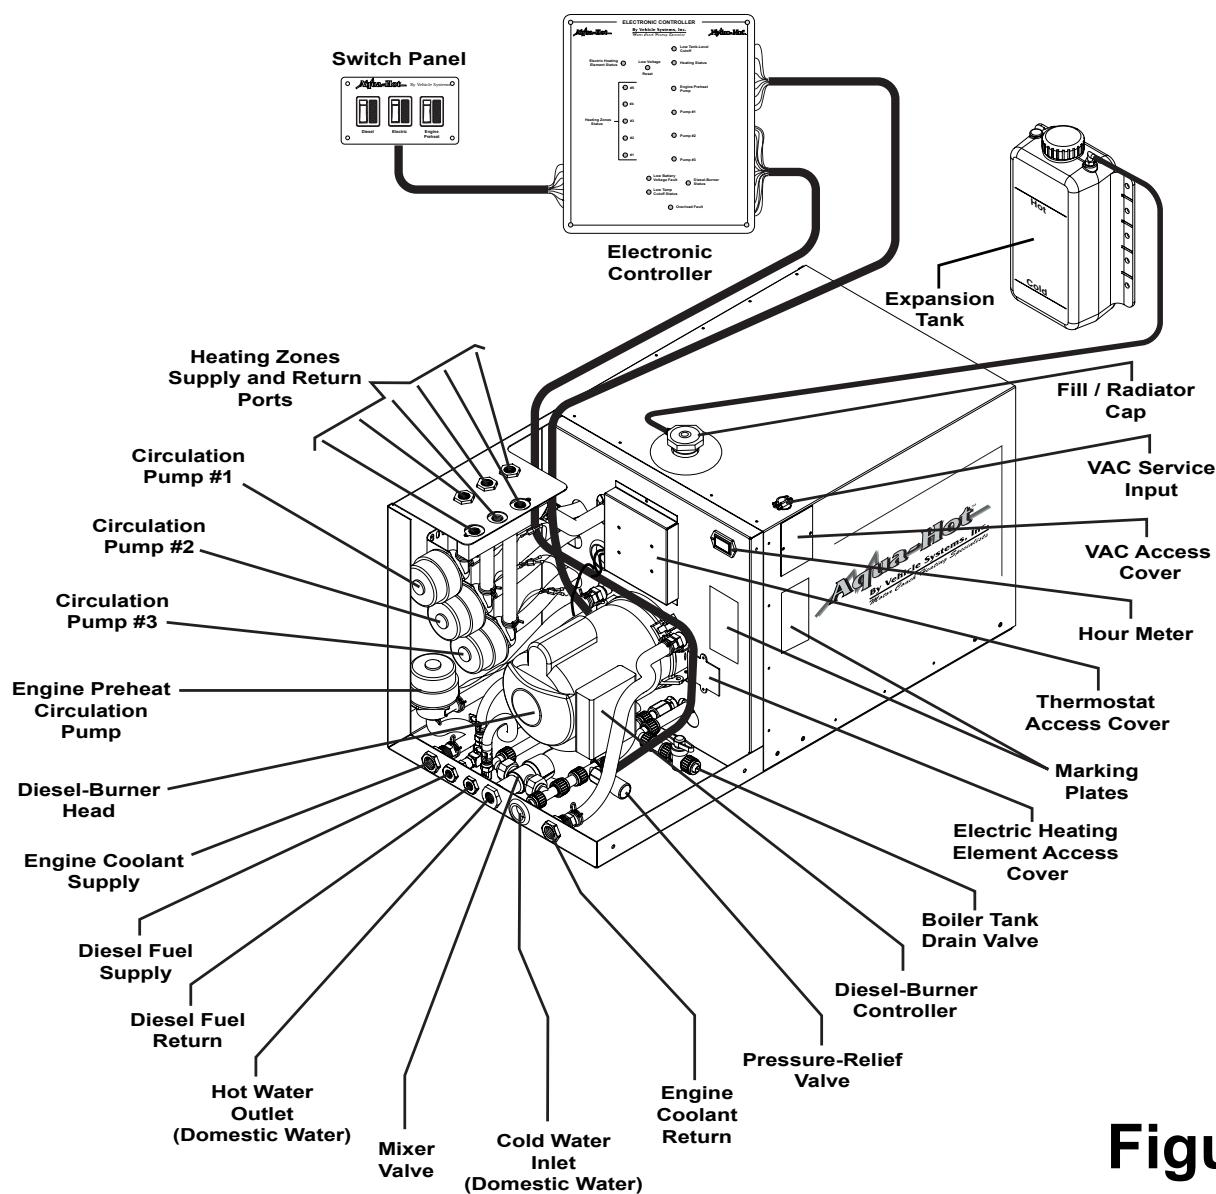

Figure 1
**Reference Figure 1
Vehicle Systems, Inc. manufactures three individual models of the *Aqua-Hot Hydronic Heating System*. The varying factor between these three models is the number of *Electric Heating Elements* featured, as well as the voltage employed by each *Electric Heating Element*. In order to determine which of the following Aqua-Hot models has been employed, locate the *Marking Plate* on the Heating System (reference Figures 1 and 2 for Marking Plate information) and view the *Model* number.
This indicator light will illuminate GREEN whenever the *Engine Preheat Pump* is operating; reference Figures 1 and 5. Please note that this light will only be active if the "Engine Preheat" switch is **ON** in conjunction with either the "Diesel" and/or the "Electric" switch; reference Figure 4. If this indicator light illuminates RED, it indicates an electrical overload condition (i.e., a short) has occurred in this particular component's circuitry.
This indicator light will illuminate GREEN whenever *Circulation Pump #1* is operating; reference Figures 1 and 5. Please note that this light will only be active if the *Aqua-Hot* is at normal operating temperature (i.e., between 160°F and 190°F) and *Heating Zone #5* is calling for heat; reference Appendix A. If this light illuminates RED, it indicates an electrical overload condition (i.e., a short) has occurred in this particular component's circuitry.
This indicator light will illuminate GREEN whenever *Circulation Pump #2* is operating; reference Figures 1 and 5. Please note that this light will only be active if the *Aqua-Hot* is at normal operating temperature (i.e., between 160°F and 190°F) and if either *Heating Zones #2, #3, or #4* are calling for heat; reference Appendix A. If this light illuminates RED, it indicates an electrical overload condition (i.e., a short) has occurred in this particular component's circuitry.
This indicator light will illuminate GREEN whenever *Circulation Pump #3* is operating; reference Figures 1 and 5. Please note that this light will only be active if the *Aqua-Hot* is at normal operating temperature (i.e., between 160°F and 190°F) and *Heating Zone #1* is calling for heat; reference Appendix A. If this light illuminates RED, it indicates an electrical overload condition (i.e., a short) has occurred in this particular component's circuitry.
This indicator light will illuminate GREEN whenever the *Aqua-Hot*'s *Diesel-Burner* is operating and supplying heat to the *Aqua-Hot*'s *Boiler Tank*; reference Figures 1 and 5. Please note that this light will only be active if the "Diesel" switch is turned **ON**; reference Figure 4.